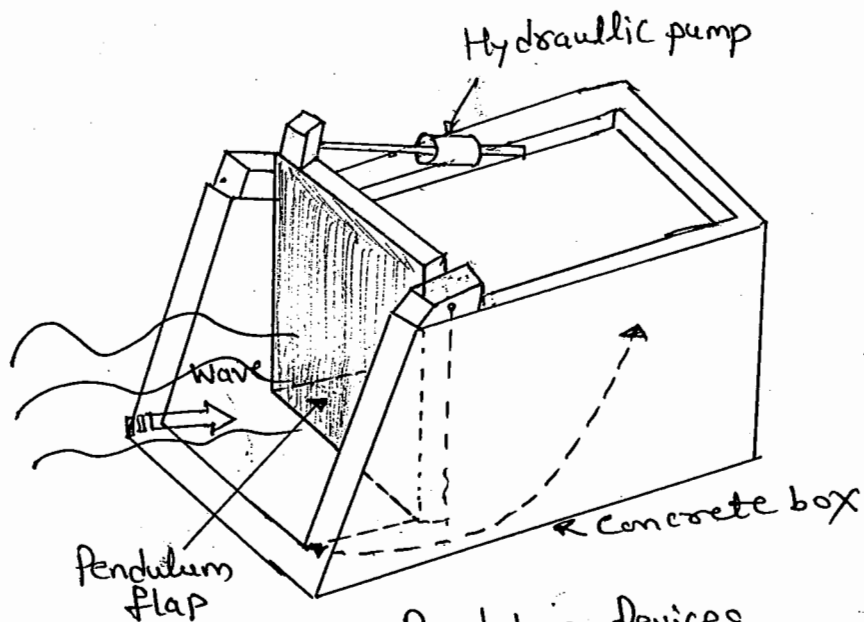

Figure 2. Pendulum devices.
- * The pendulum system is a shoreline device that consists of a parallel piped concrete box, which is open to the sea at one end as shown in Figure 2.